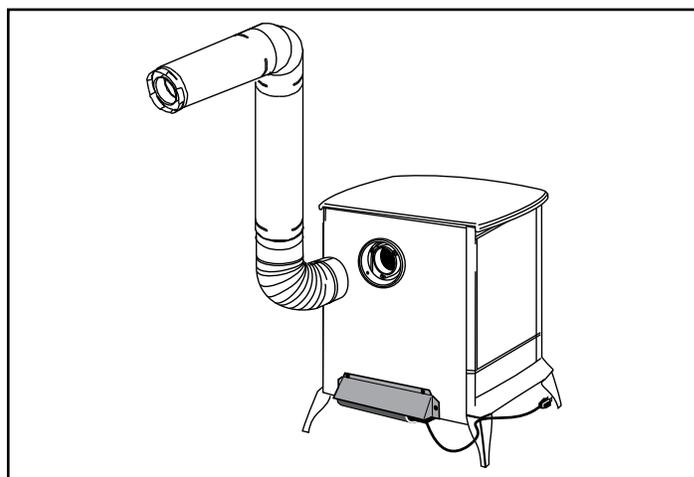

Figure 3.23
Step 2 - DirectVent Pro pipe, SLP pipe and fittings are designed with special twist-lock connections. To connect the venting system to the appliance flue outlet, a twist-lock appliance adaptor is built into the appliance at the factory. Assemble the desired combinations of black pipe sections and elbows to the appliance adaptor with pipe seams oriented towards the wall or floor, as much out of view as possible, Figure 3.23.